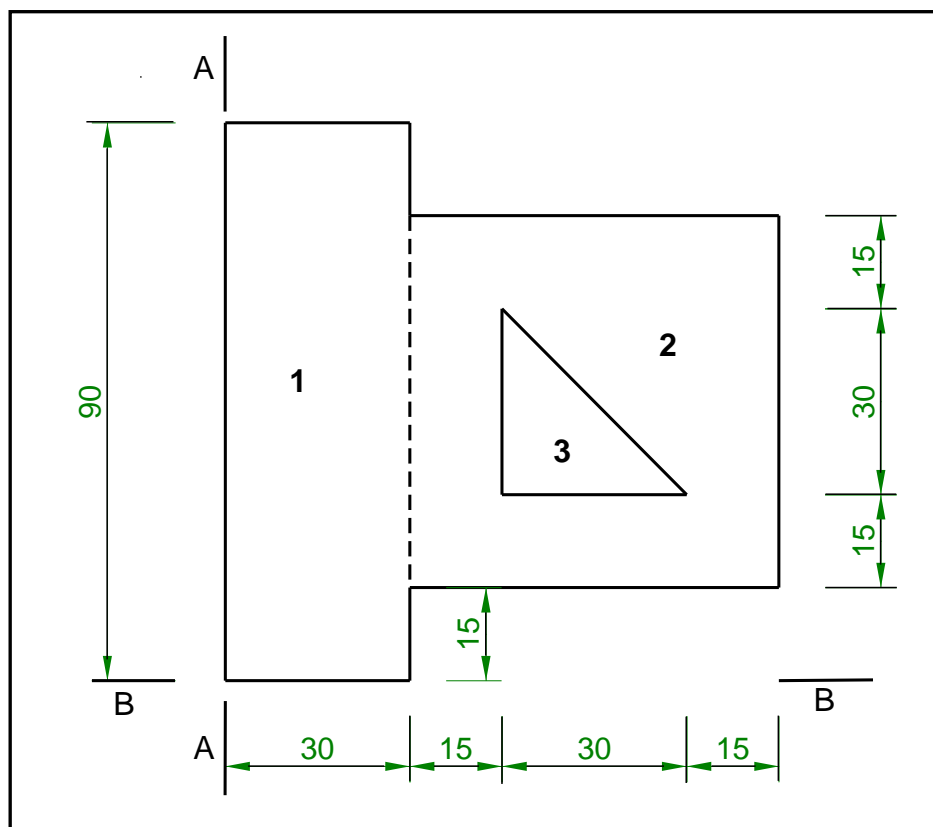

FIGURE 5.1
- 5.1 FIGURE 5.1 below shows a shaped lamina with a right-angled triangular hole. All dimensions are in millimetres.